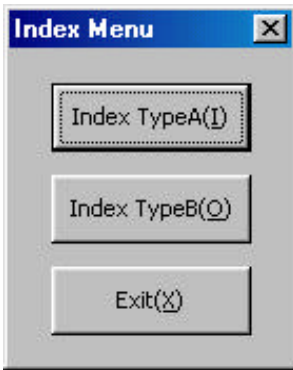

Figure 7.38 “Index Menu” dialog box
Click “*Index Comp (N)*” under “MainMenu” to display the “Index Menu” dialog box (Figure 7.38).